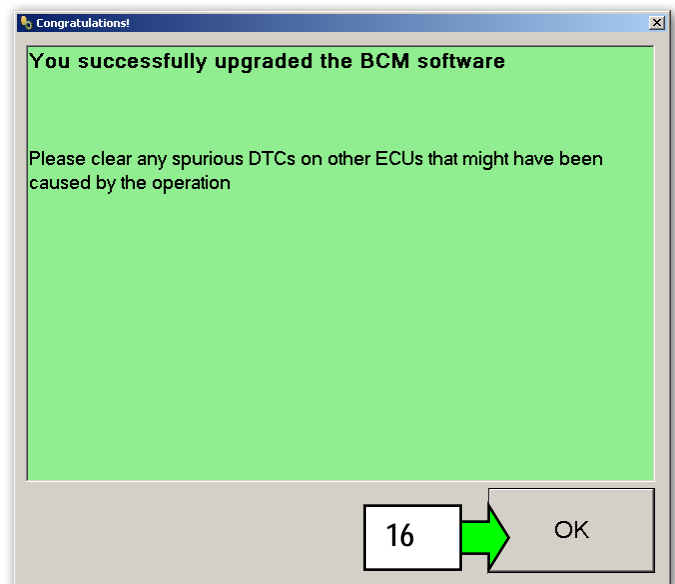

Figure 5
**NOTE:** When BCM reprogramming is complete the screen in Figure 5 displays and the hazard flashers will start flashing.